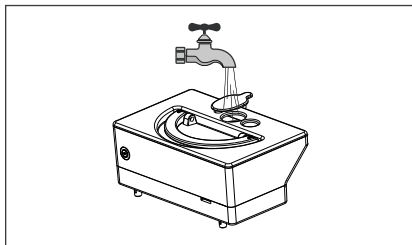

Figure 2
- Classic Mode: Press the button twice to enter classic cleaning when robot is in selected mode. (Refer to Figure 2)
3. Pouring the clean water into the water tank. (Figure 2)